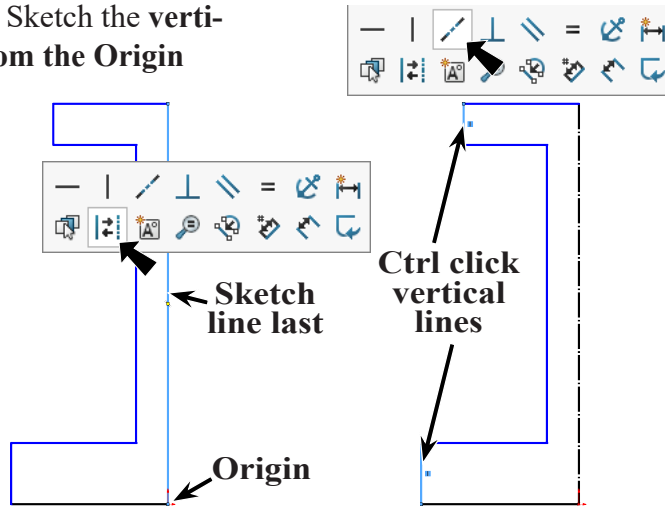

Fig. 2
Step 3. Click **Line**  (L) on the Sketch toolbar.
Step 4. Sketch lines, **Fig. 2**. Sketch the **vertical centerline up from the Origin**